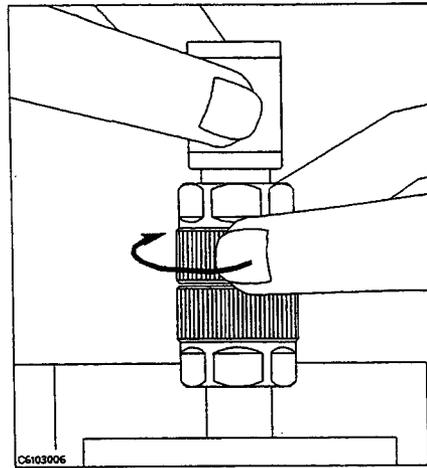

Figure 5-11.
13. Connect the 50 Ω termination on the APC-7[®] connector as shown in Figure 5-11.